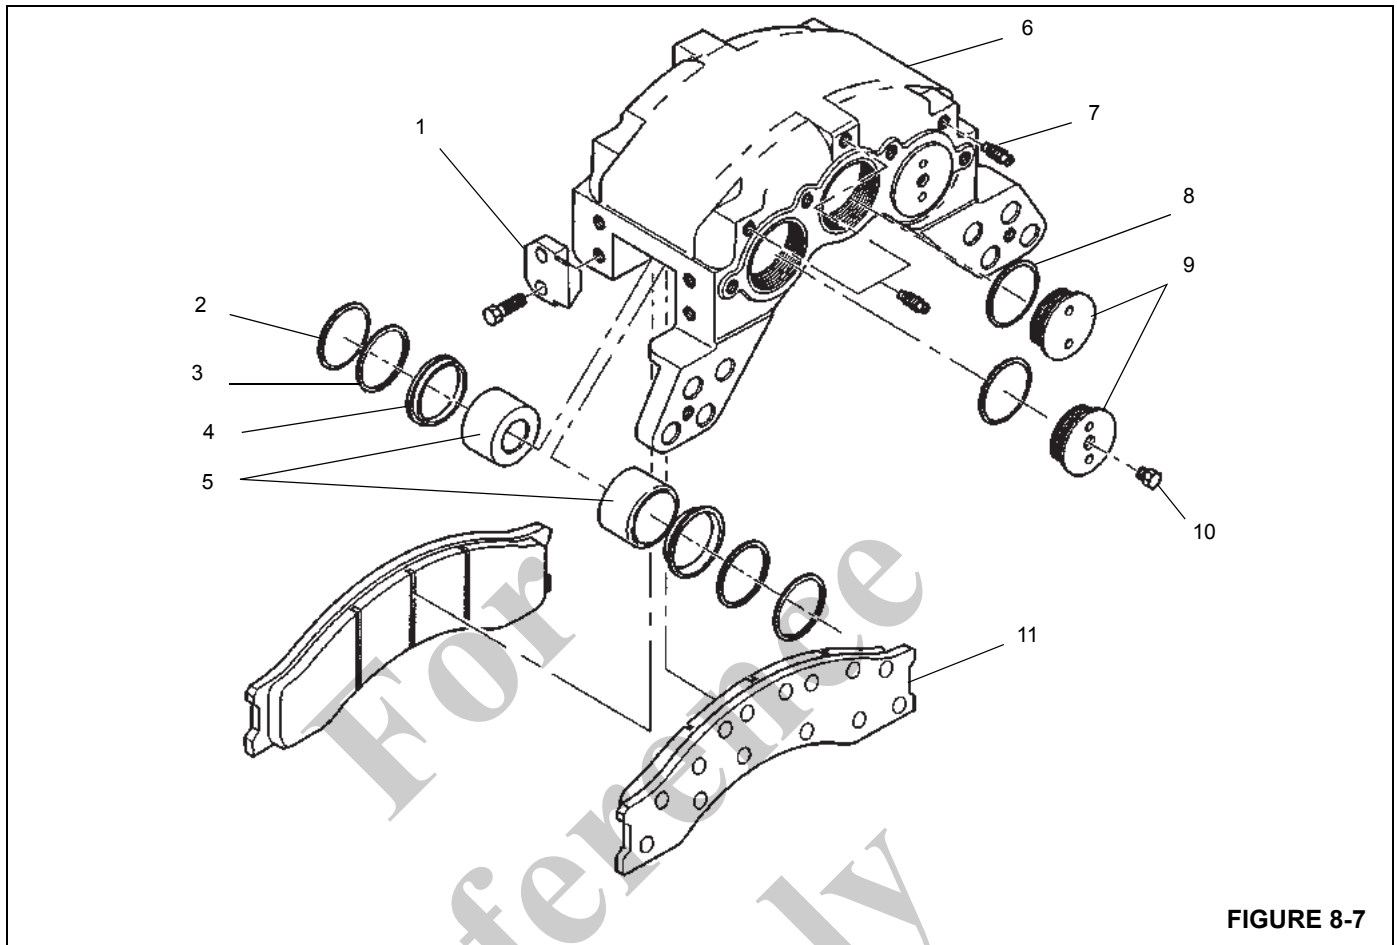

FIGURE 8-7
- d. Remove the pistons (Figure 8-7) from the bores that are opposite from the mounting plate.